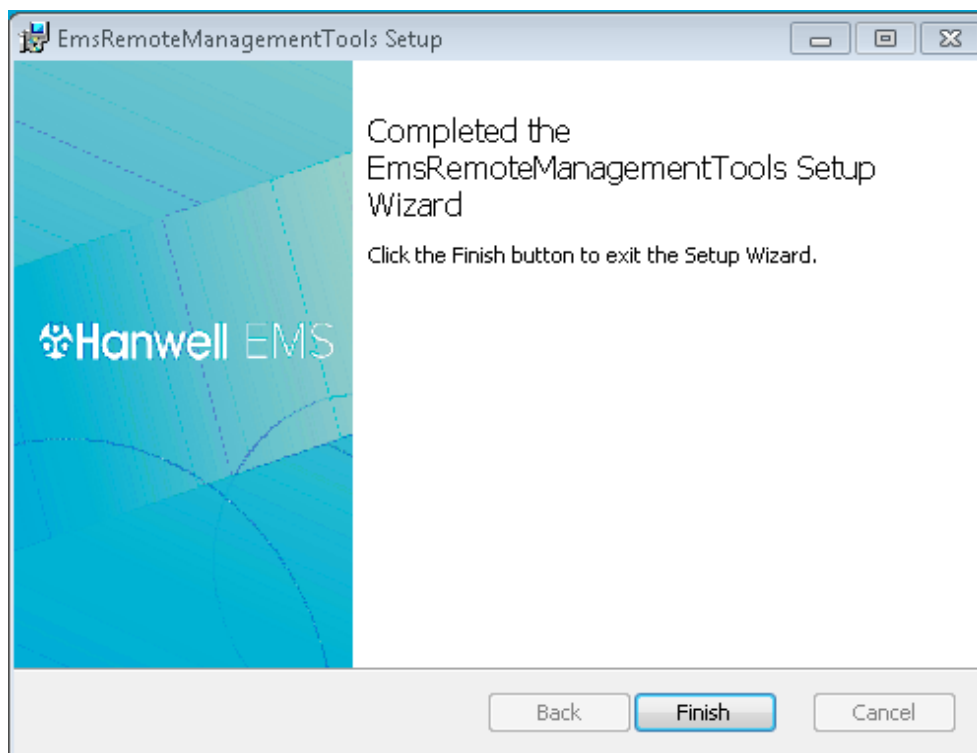

**Figure 97**
- The Windows Security window is displayed. See Figure 97 below: